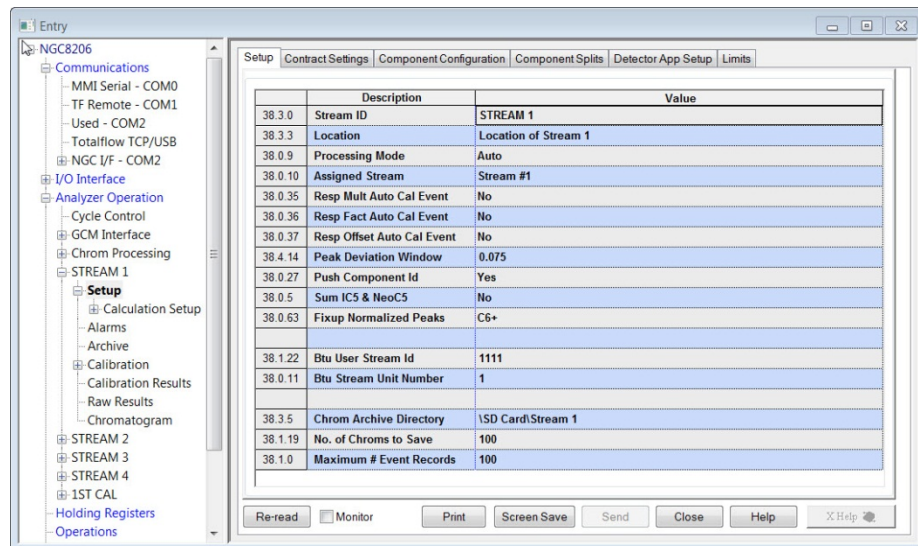

Figure 17. Verify stream BTU user stream ID
- 4) Take note of the *Btu User Stream ID* associated with Stream # 1 (see Figure 17).